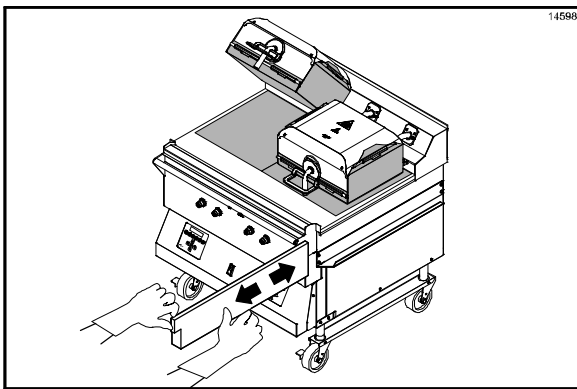

Figure 39
- Remove, empty, and reinstall the grease pans. (See Figure 39.)